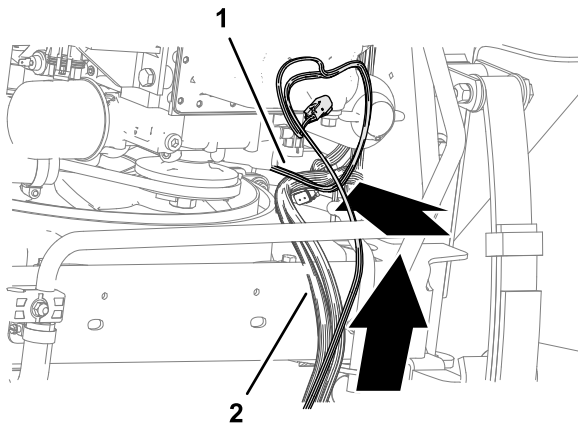

Figure 87
3. At the bottom, back side of the radiator, route the wire harness up, along the machine wire harness (Figure 87).